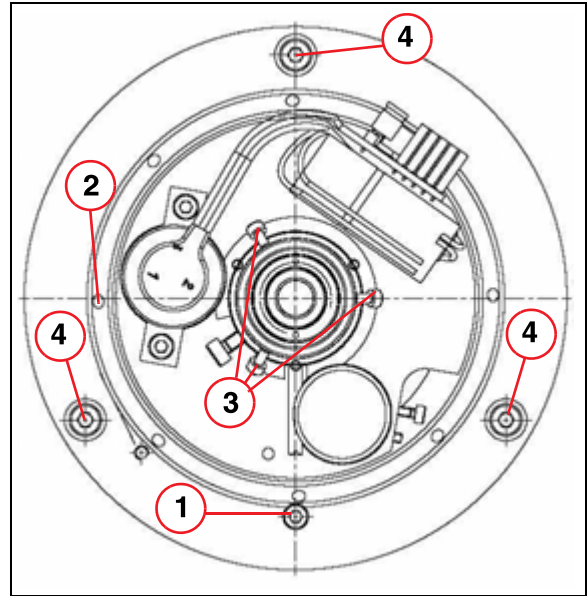

Fig. 10: Replacing the camera and I.I. optics
4. Loosen the clamping screw (1/Fig. 10 / p. 40).
5. Rotate the clamping ring (2/Fig. 10 / p. 40) a half rotation in the counterclockwise direction to loosen the camera. For this purpose, insert an Allen key (2.5 mm) into the hole (2/Fig. 10 / p. 40) and push the clamping ring in the counterclockwise direction.
6. Remove the 3 Allen screws (3/Fig. 10 / p. 40).
1. Remove the 3 M4 screws (4/Fig. 10 / p. 40).
- ⇒ When screwing in the 3 M4 screws (4/Fig. 10 / p. 40), make sure that the optic is pressed against the centering bolts.